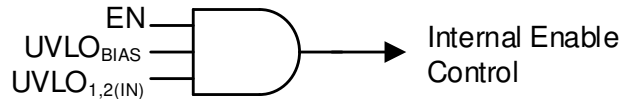

図 6-3. Simplified Turn-On Control
Controlling when a single power supply turns on can be difficult in a power distribution network (PDN), because of the high power levels inherent in a PDN and the variations between the supplies. As shown in 図 6-3 and 表 6-2, the LDO turn-on and turn-off time is set by the enable circuit (EN) and undervoltage lockout circuits ( $UVLO_{1,2(IN)}$  and  $UVLO_{BIAS}$ ).